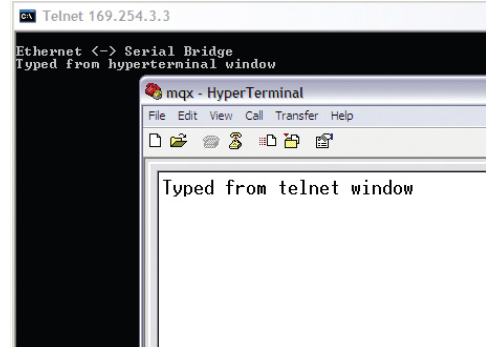

Figure 4: Ethernet to Serial Bridge
10. Now the serial console and the telnet sessions should be “bridged.” Type some characters into the telnet session, and you should see the characters appearing on the console terminal window. See Figure 4 for how it will appear.